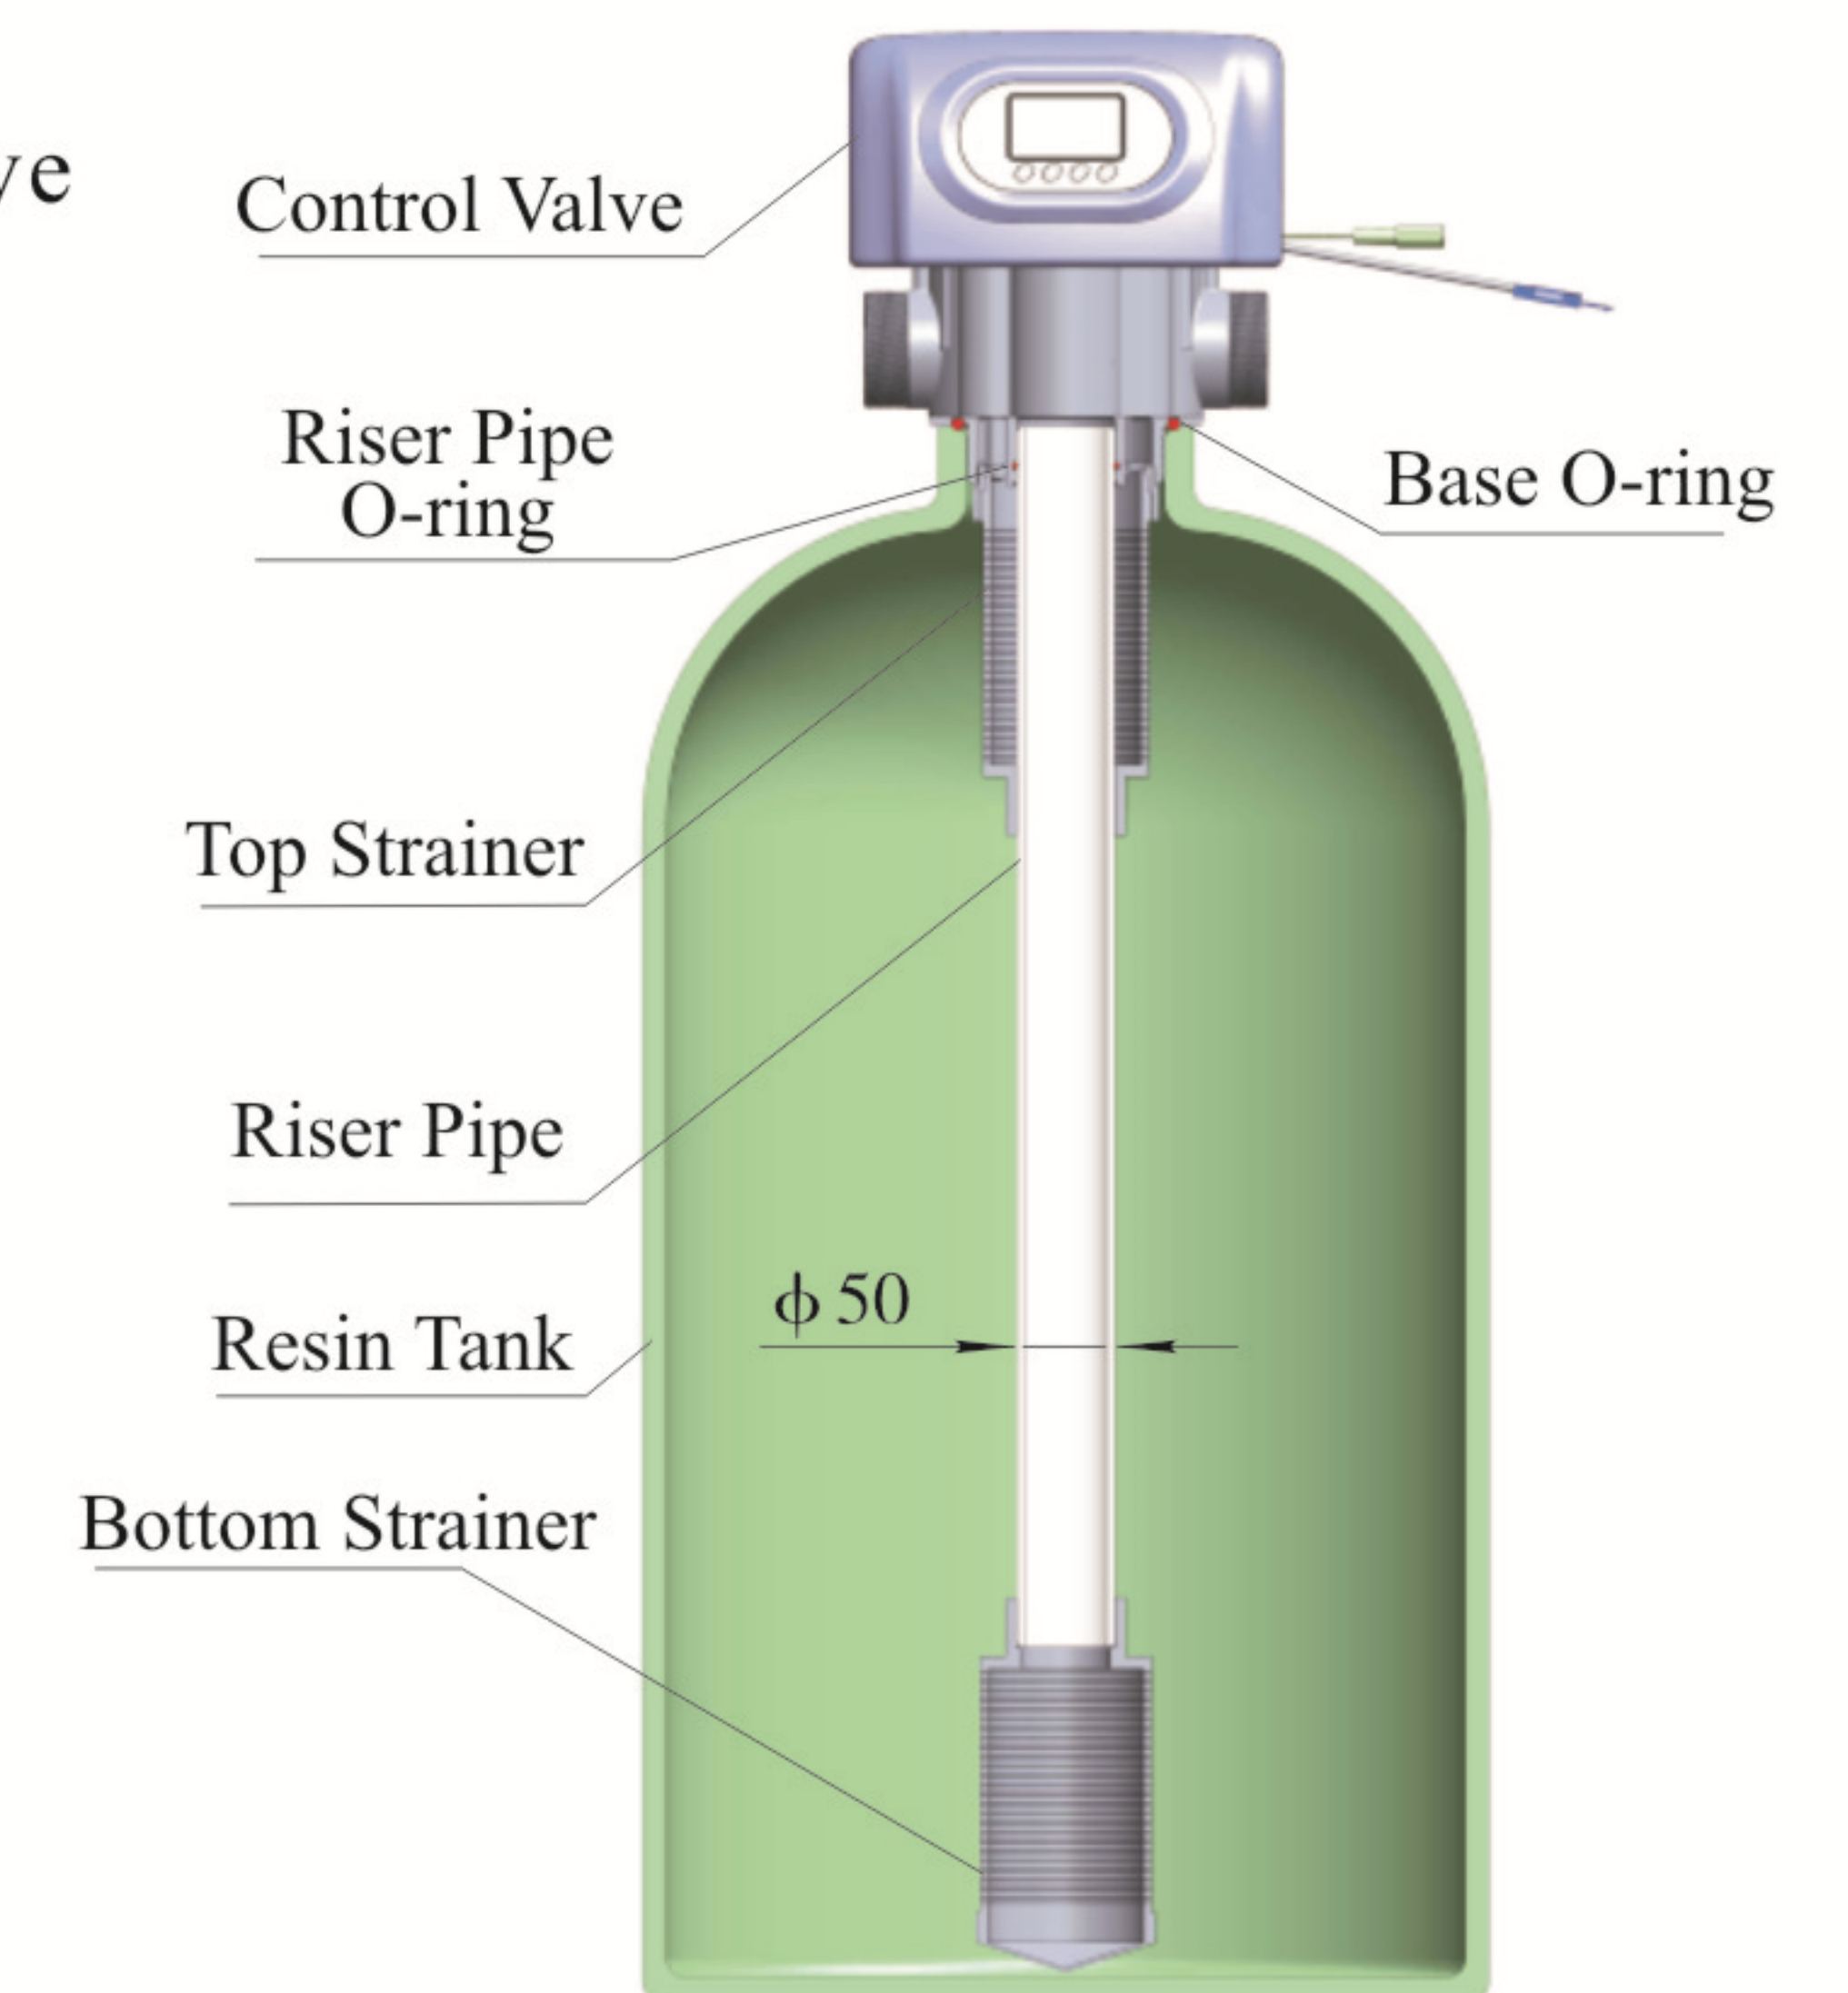

Figure 1-1
- ① The softener should be located close to drain.
- ② Ensure the unit is installed in enough space for operating and maintenance.
- ③ Brine tank need to be close to softener.
- ④ The unit should be kept away from the heater, and not be exposed outdoor. Sunshine or rain will cause the system damage.
- ⑤ Please avoid installing the system in one acid/alkaline, magnetic or strong vibration circumstance, because above factors will cause the system disorder.
- ⑥ Do not install the filter or softener, drain pipeline in circumstance which temperature may drop below 5°C, or above 45°C.
- ⑦ Install the system in the place where with the minimum loss in case of water leaking.
① Install control valve
a. As the Figure 1-1 shows, select the riser pipe with 50mmOD, take GB standard riser pipe as an example glue the riser pipe to the bottom strainer and put it into the mineral tank, cut off the exceeding tube out of tank top opening and round it. Plug the riser tube in case of mineral entering.